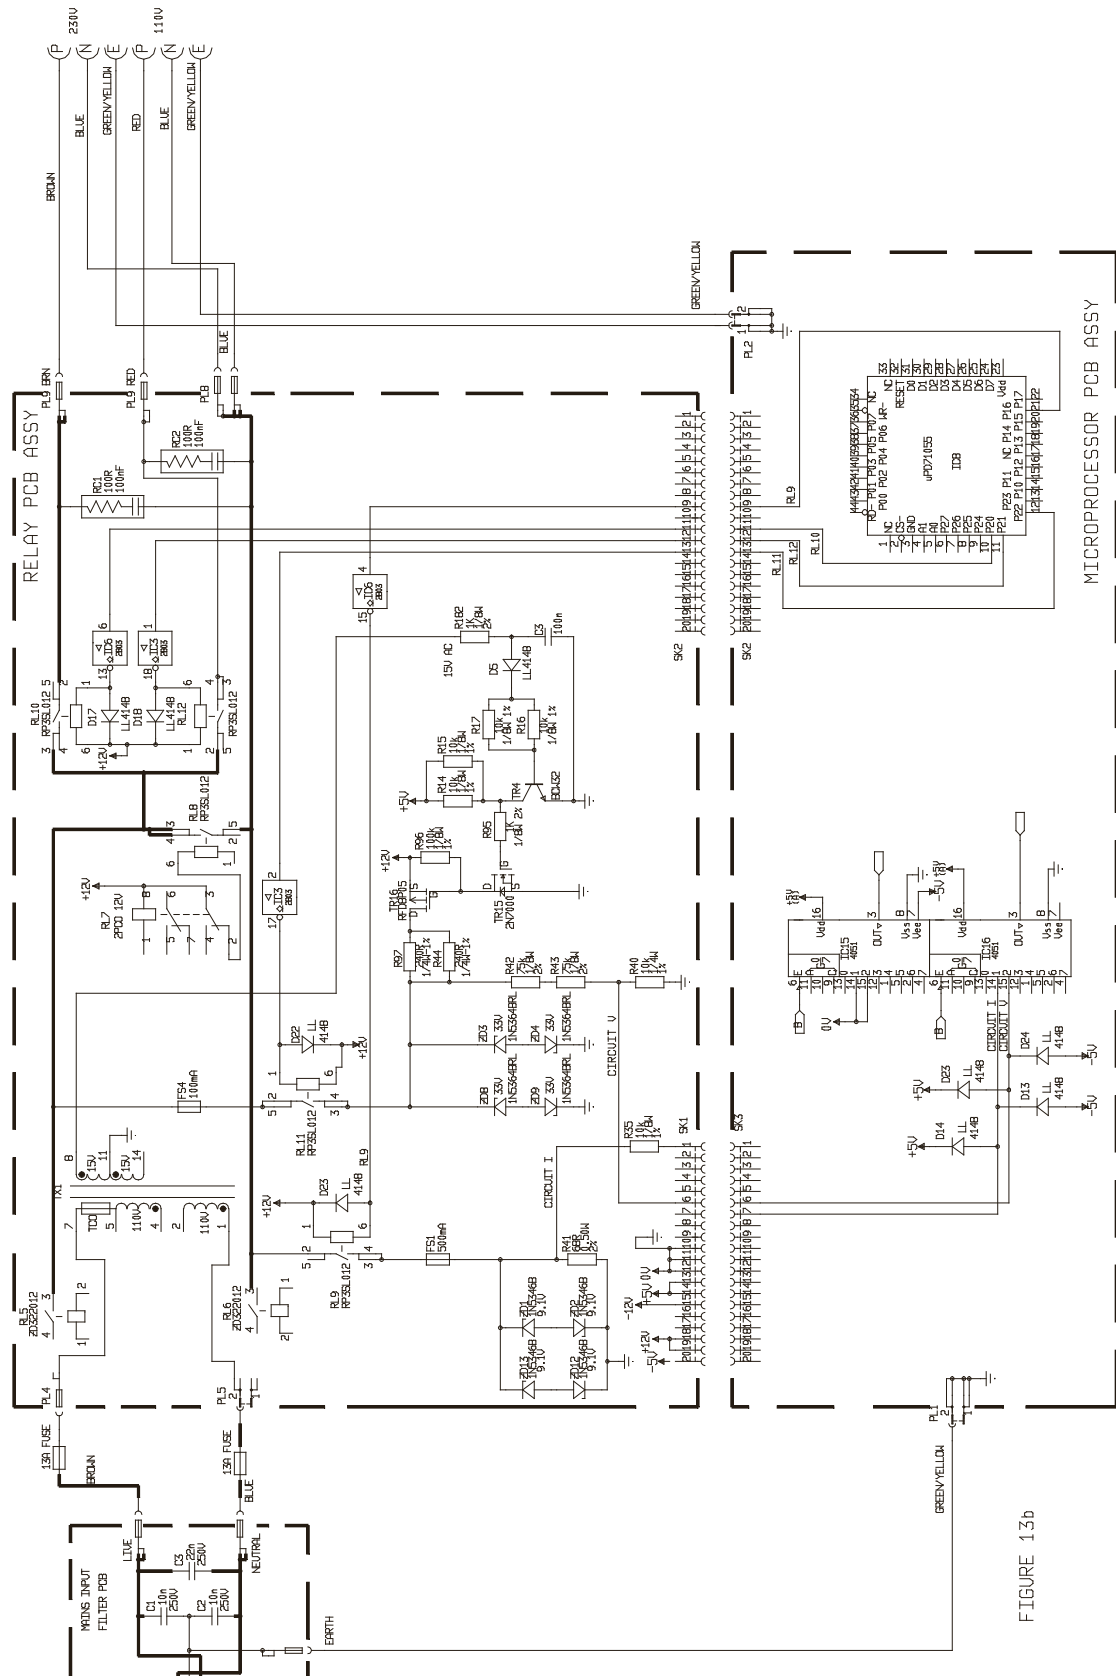

Figure 13b
Later PAT4 instruments contain an up rated Circuit Load Test as shown on *figure 13b*. A constant amplitude square wave in wave employed rather than the sine wave from the main transformer. This improved circuit is more consistent across the mains voltage input range.
Potential divider formed from resistors R40, R42 & R43 are used to attenuate the voltage present on the PAT4DVF appliance socket. With the resistor values used and the no appliance connected approximately 0.6 Volts is present at SK1 pin 6. This is transferred to the PAT4DVF "Microprocessor PCB". Multiplexer channel (10) being the destination of this signal, which as shown on *figure 13b*. is connected to IC16 pin 15. This measurement is not actually scaled to volts but is used in BIT form.
Load current to either PAT4DVF Appliance test socket is measured via current shunt R41. The voltage present across this resistor being transferred to the PAT4DVF "Microprocessor PCB" via SK1 pin 1 and Multiplexer channel (09), which as shown on *figure 13b*. is connected to IC16 pin 14. With the resistor values used and a short circuit applied to the Appliance Socket (Live - Neutral) approximately 0.6 Volts is present at IC16 pin 14.